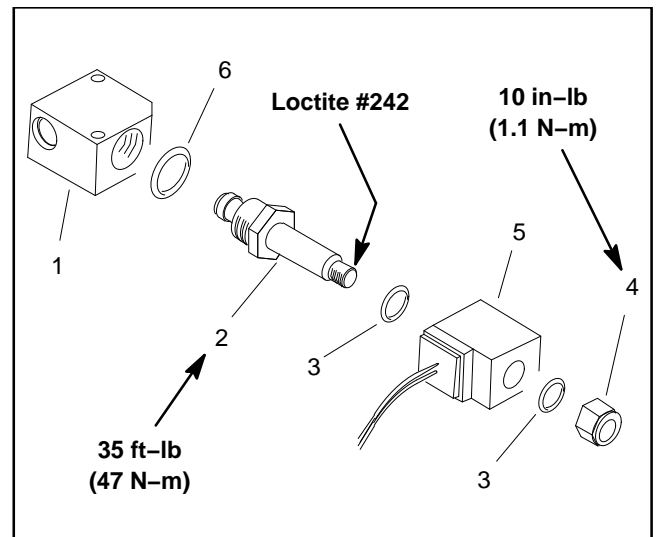

Figure 85
1. Disassemble solenoid valve manifold as needed using Figure 85 as a guide.